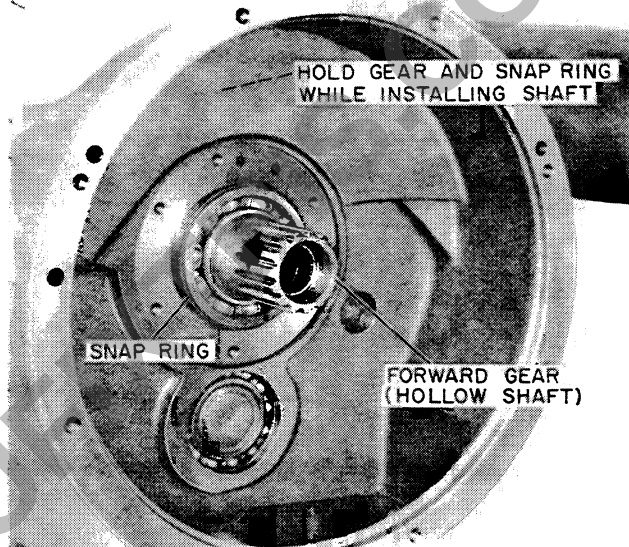

Figure S-61
3. Install the snap ring on the outside diameter of the forward drive shaft bearing. Then manually push the drive shaft assembly into the housing (from clutch or rear side) until the snap ring on the outside diameter of the bearing is against the shoulder in the bore of the housing, Figure S-61.